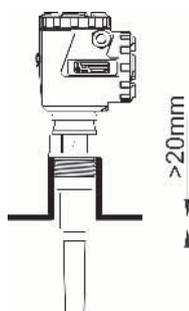
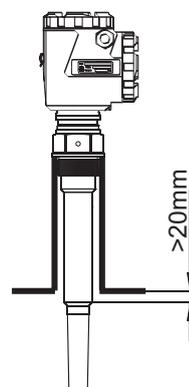

Fig.14
Fig.15
- The inactive part of the antenna must extend below the nozzle (fig.14). If necessary, it's possible to install an extension (fig.15)